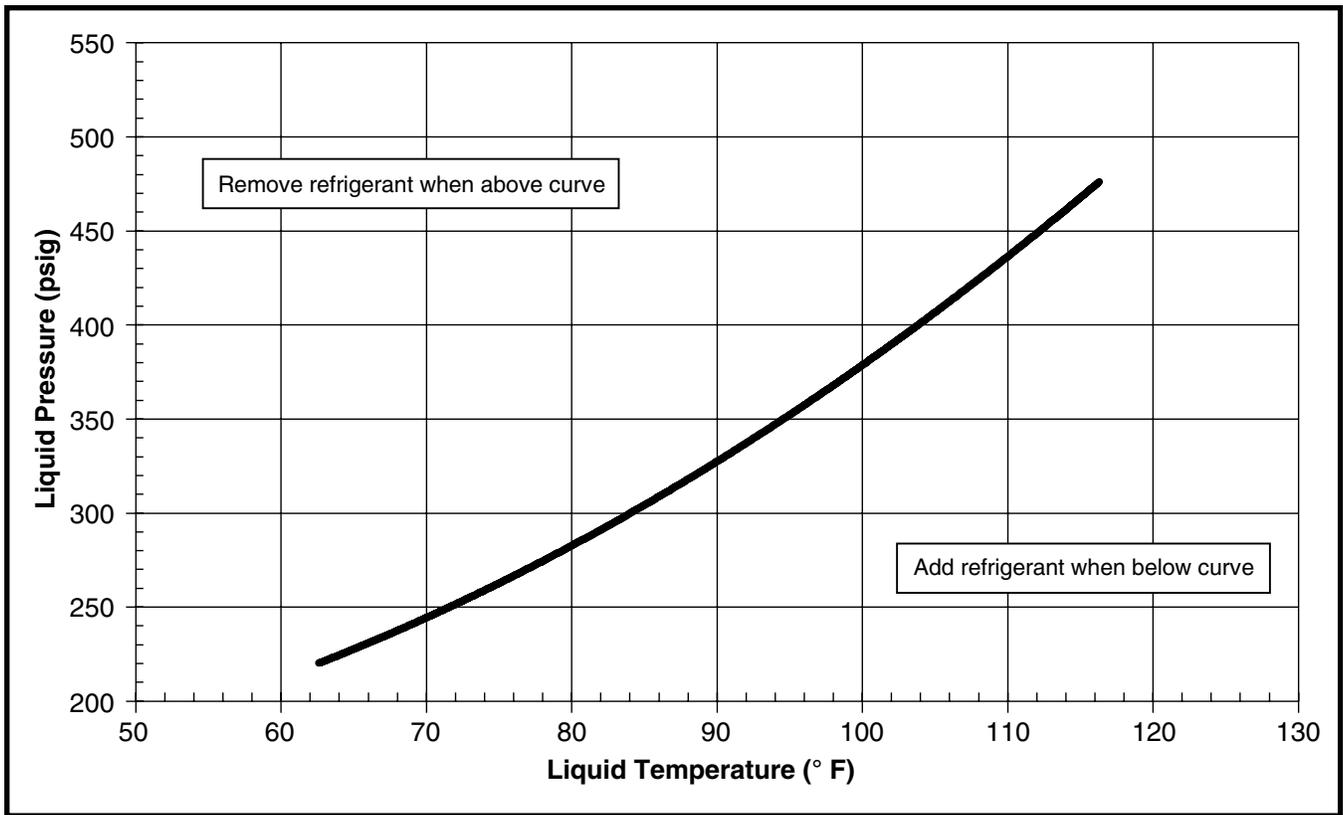
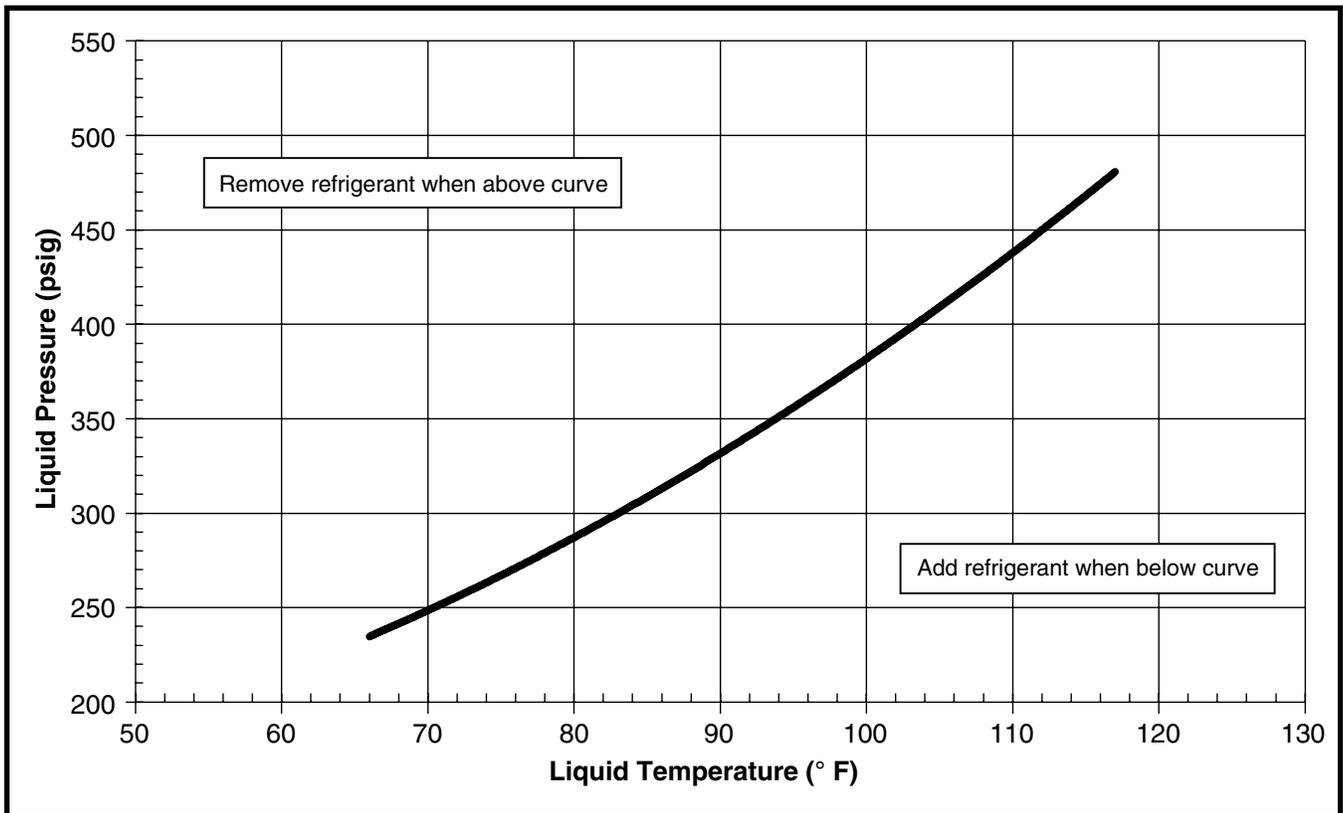

Figure 19. Charging Chart for 2 Ton Units
Figure 20. Charging Chart for 3 Ton Units
5. Using the temperature value recorded, determine the corresponding liquid refrigerant pressure from the curve in the appropriate charging chart. See Figure 19, Figure 20 \(page 38\), & Figure 22 \(page 39\).
The charging charts (Figure 19, Figure 20 \(page 38\), & Figure 22 \(page 39\)) are valid for a variety of indoor, return air conditions and are most highly influenced by the outdoor ambient temperature, outdoor fan operation and the unit operating voltage. Before referencing the charts, always make sure that the compressor circuit is energized on nominal speed (**Y1** & **Y2** energized) and has stable operation. As can be seen in the charging charts, the ideal system sub-cooling can vary over the range of operation. Always reference the charts to determine the ideal amount of sub-cooling for a given liquid pressure. Units charged to other values will not perform at the rated unit efficiency (EER).